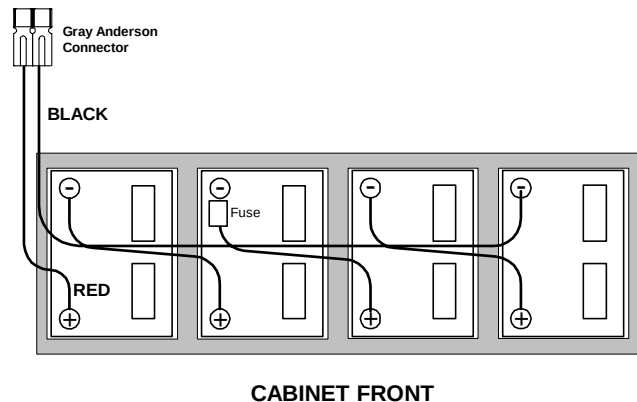

Fig. 3-5, 48V Battery Connections – single string P/N 875-182-21
- C. Battery power cable (Fig. 3-5, 3-6)